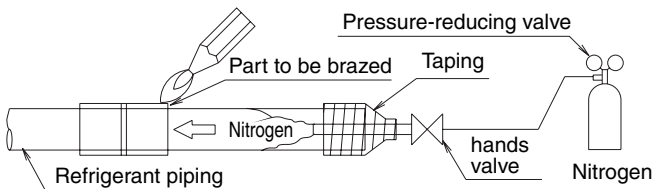

Fig. 9
- When brazing the refrigerant piping, perform nitrogen replacement first, or perform the brazing (CAUTION 2) while feeding nitrogen into the refrigerant piping (CAUTION 1), and finally connect the indoor unit using the flare connections. (Refer to Fig. 9)